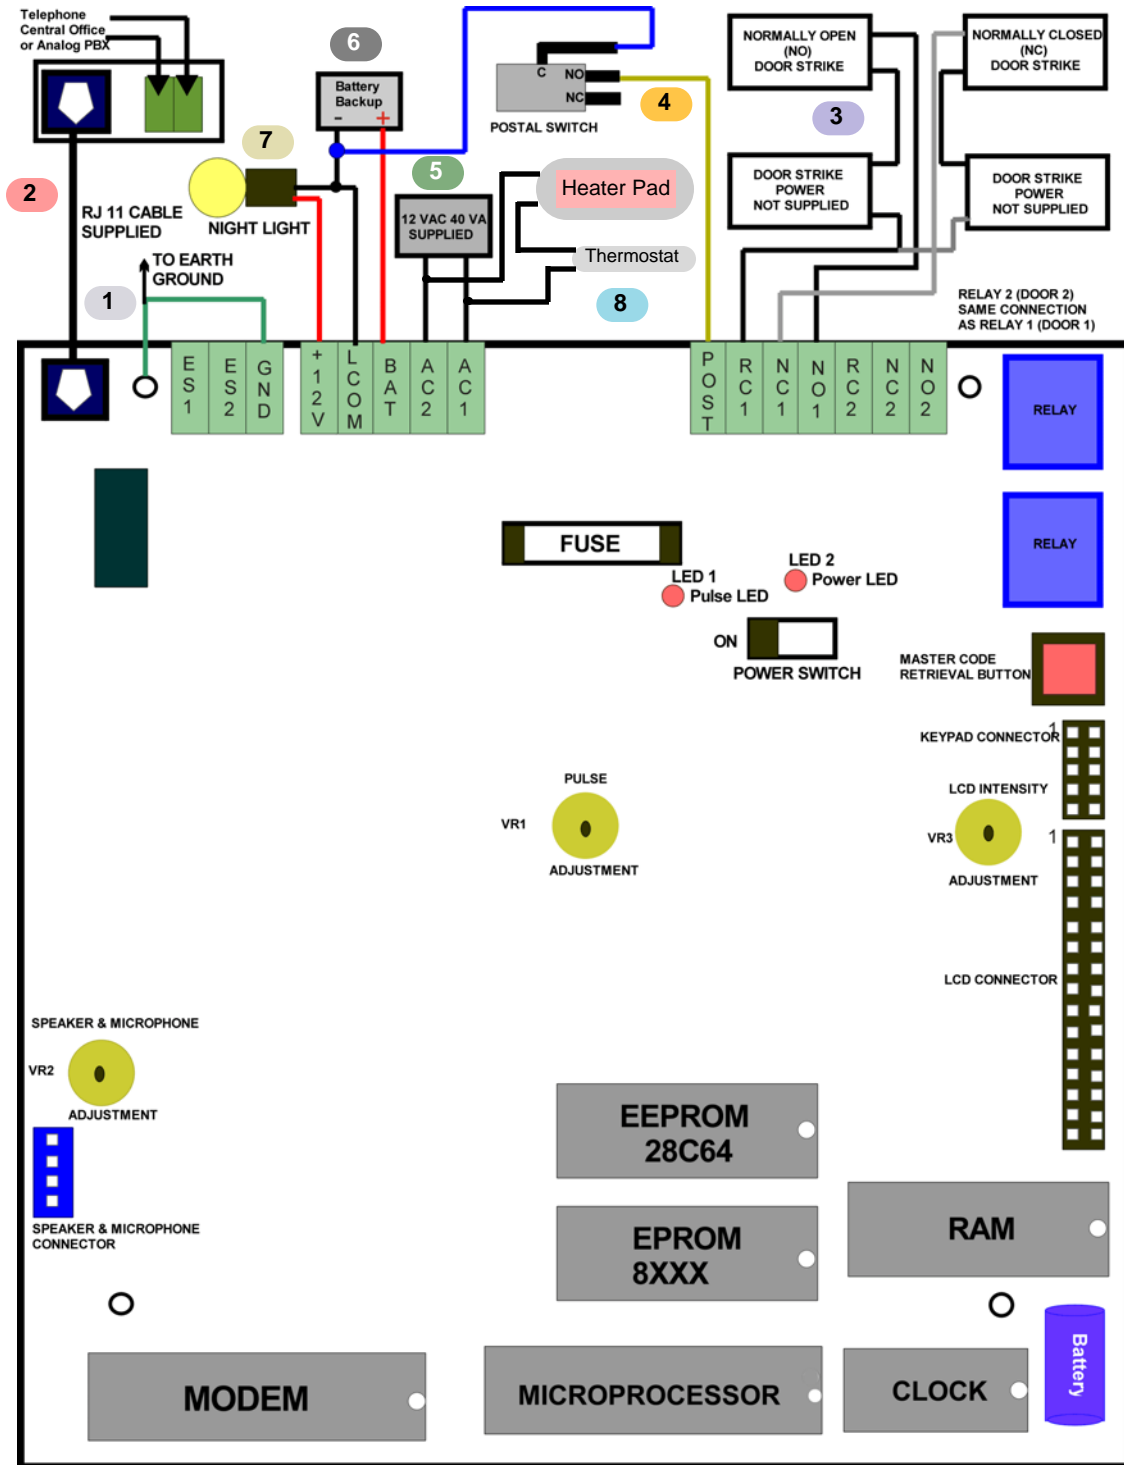

Figure 2.1
See figure 2.1 for door strike wiring diagram. See door strike or electrical strike manual for wiring requirements.
A 12 VAC 40VA transformer is supplied by Pach and Company. However, 12 VDC 40VA power supply can be used to power the AeGIS 8000 Series use the same connection as shown on figure 2.1. The DC output must be between 13.5 VDC-14.0 VDC, if the output is less than the range specified, the relay will not work and the door will not function properly.
**WARNING:** The connection is polarity sensitive. Connect the battery (+) terminal to the connector labeled (BAT) on the AeGIS 8000 Series and the battery (-) terminal to the connector labeled LCOM on the AeGIS. See figure 2.1 for wiring diagram.
The night-lights are factory prewired as shown on Fig 2.1. There are four 14V 0.080A 15,000 Average life hours light bulbs or super bright LED. Replace the light bulb with the same rating. If the system comes with super bright LED, you must call the manufacturer for the replacement.